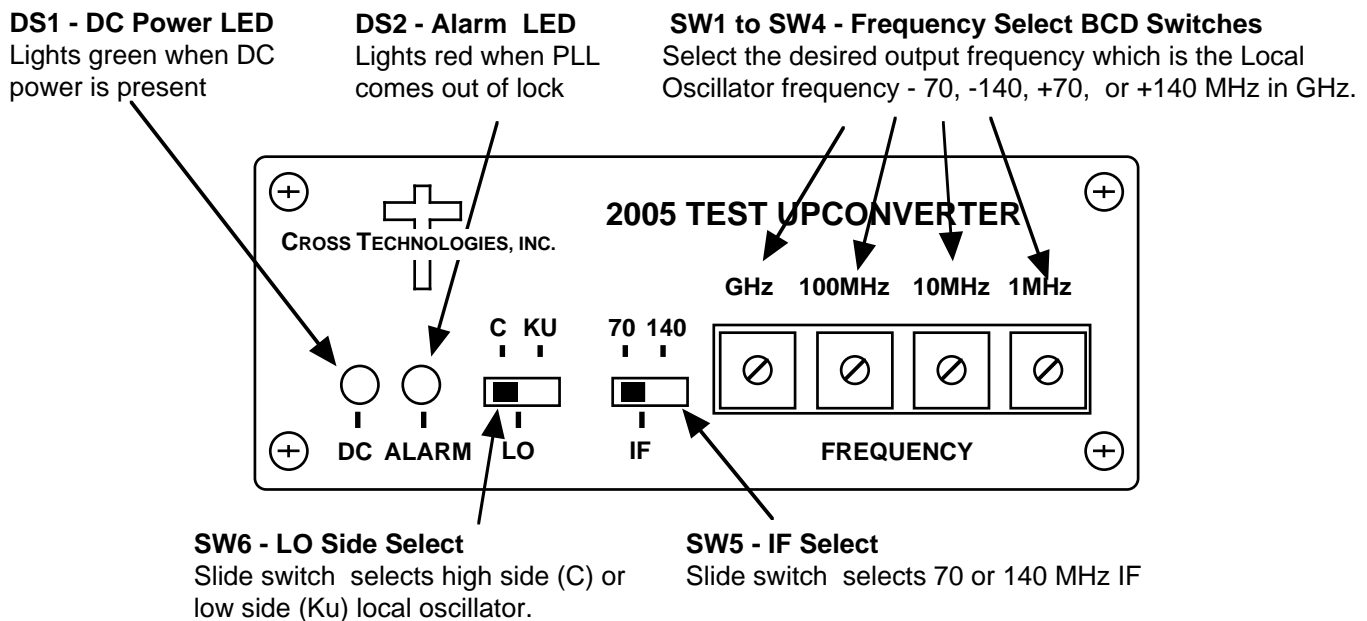

FIGURE 2.2 2005-04 Front Panel Controls and Indicators
2.2 Controls and Indicators - Figure 2.2 shows front panel controls and indicators.
- 1.) Check that SW5, SW6, SW7 are set to the desired positions (Figure 2.2, Figure 2.3).
- 6.) Set BCD switches SW1 to SW4 to the desired frequency (Figure 2.2).
- 7.) Be sure DS1 (green, DC Power) is on and DS2 (red, Alarm) is off (Figure 2.2).
2.5.2 Frequency Setting, SW1 to SW4 - The frequency is selected by setting the BCD switches (SW1 to SW4) on the front panel to the desired frequency using a small blade screwdriver. The frequency displayed on the BCD switches is the desired output frequency with 70 or 140 MHz IF center frequency input and the low or high side LO as selected by SW5 and SW6 (see Figure 2.2). There is no muting of the output carrier during frequency selection. If the switches are set to an invalid frequency, alarm LED DS2 will light.
2.5.4 Selecting High Side LO, Low Side LO, 70 MHz or 140 MHz Input - To select High Side LO, Low Side LO, 70 MHz or 140 MHz Input set SW5 and SW6 on the front panel (see Figure 2.2) to the desired position.
3.2.2 Frequency Setting, SW1 to SW4 - The frequency is selected by setting the BCD switches (SW1 to SW4) on the front panel to the desired frequency using a small blade screwdriver. The frequency displayed on the BCD switches is the desired output frequency with 70 or 140 MHz IF center frequency input and the low or high side LO as selected by front panel slide switches SW5 and SW6 (see Figure 2.2). There is no muting of the output carrier during frequency selection. If the switches are set to an invalid frequency, alarm LED DS2 will light.